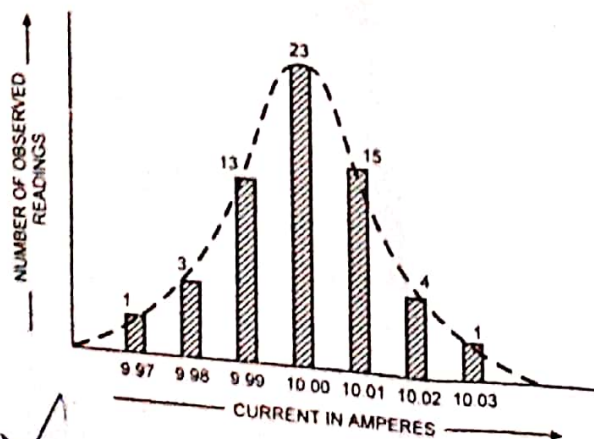

Fig. 3.2
In Fig. 3.2, a histogram for Table 3.1 is shown, in which the number of readings are plotted against each observed current reading.
From the figure it is obvious that the largest number of readings (23) occurs at the central value of 10.00 A while the other readings are placed more or less symmetrically on either side of central value. If more readings are taken at smaller increments of 0.005 A intervals (200 readings), then the distribution of observations will remain approximately symmetrical about the central value and the shape of the histogram will be approximately the same as before. With more and more data taken at smaller and smaller increments, the contour of the histogram will finally become a smooth curve, as shown in Fig. 3.2 by the dashed line. The bell shaped curve is known as a *Gaussian curve*. The sharper and narrower the curve, the more definitely an observer may state that the most probable value of the true reading is the central value or mean value.